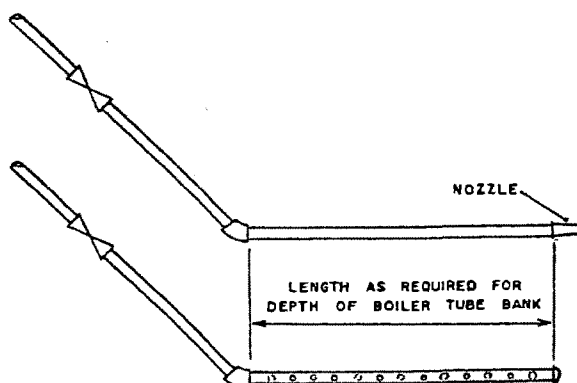

FIGURE 1. WATER LANCE FOR APPLYING WATER LOCALLY WHEN WATER WASHING.
- (1) Use of a water lance, see Fig. 1.
- (2) Use of soot blowers for distributing the water in the tube nests.